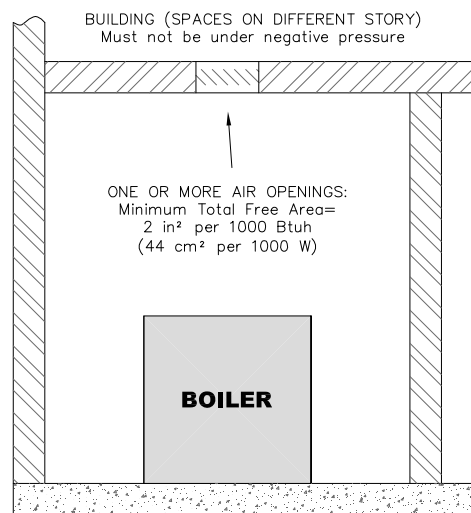

Figure 1.4: Air Openings – All Air from Indoors on Different Floors
- b. **Combining Spaces on Different Floors:** Provide one or more permanent openings communicating with additional spaces that have a total minimum free area of 2 in² per 1000 Btu/hr (44 cm² per 1000 W) of total input rating of all equipment. See Figure 1.4 for an illustration of this arrangement.